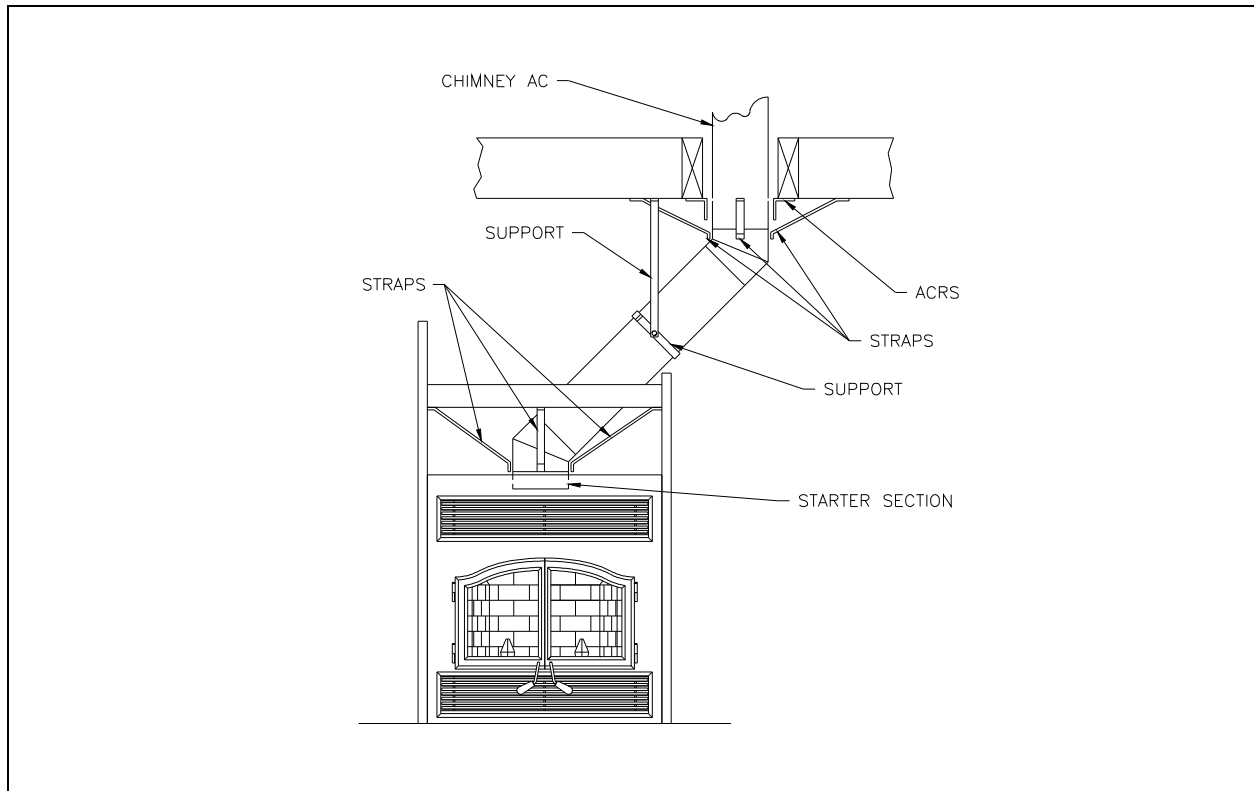

Figure 28
1. Install the first elbow. Turn it in the required direction. To lock it in place, turn 1/8 of a turn. Fasten the straps attached to the elbow to the surrounding frame, using nails or drywall screws (figure 28).